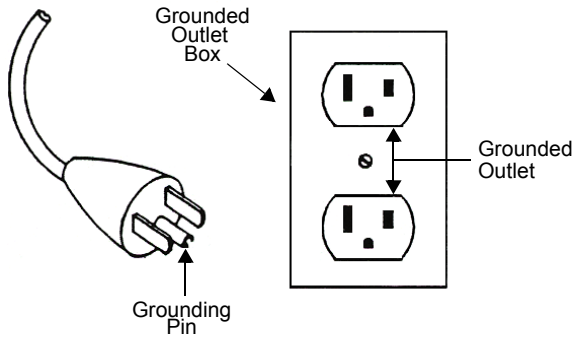

Figure 4 Grounding Plug and Outlet
- When this product is configured for use on a nominal 120 V circuit, it must be used with a grounding plug that looks like the plug illustrated in Figure 4.*